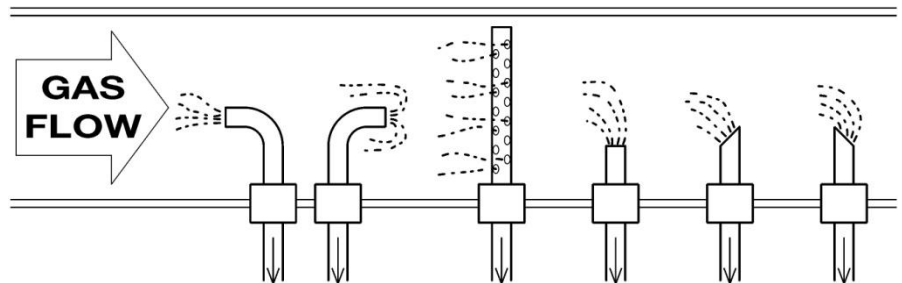

Figure 3-1
1. Remove the four retaining screws from the 379020A Thermodiluter control unit (see Figure 3-1).
The Thermodiluter head is designed for direct mounting to a tail pipe or stack. Tests of different sampling probes have shown that particle loss due to anti-isokinetic effects can be neglected for all types of probes shown in Figure 3-1 in nanoparticle measurement in the size range from a few tenths to a few hundred nm.